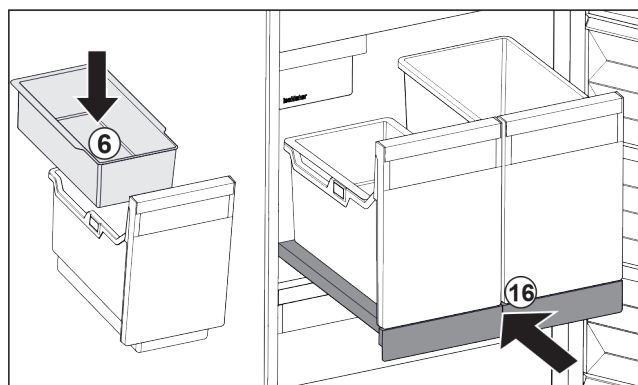

Fig. 107
- ▶ Insert hang-on tray Fig. 107 (6) for ice cubes.
- ▶ Slide in the pull-out board with (IceTower) container. Fig. 107 (16)